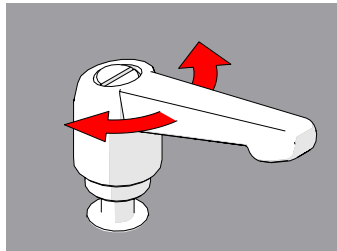

Fig. 41 - Rotate handle
2. Continue to pull while rotating the lever in the appropriate direction (*Fig. 41*).